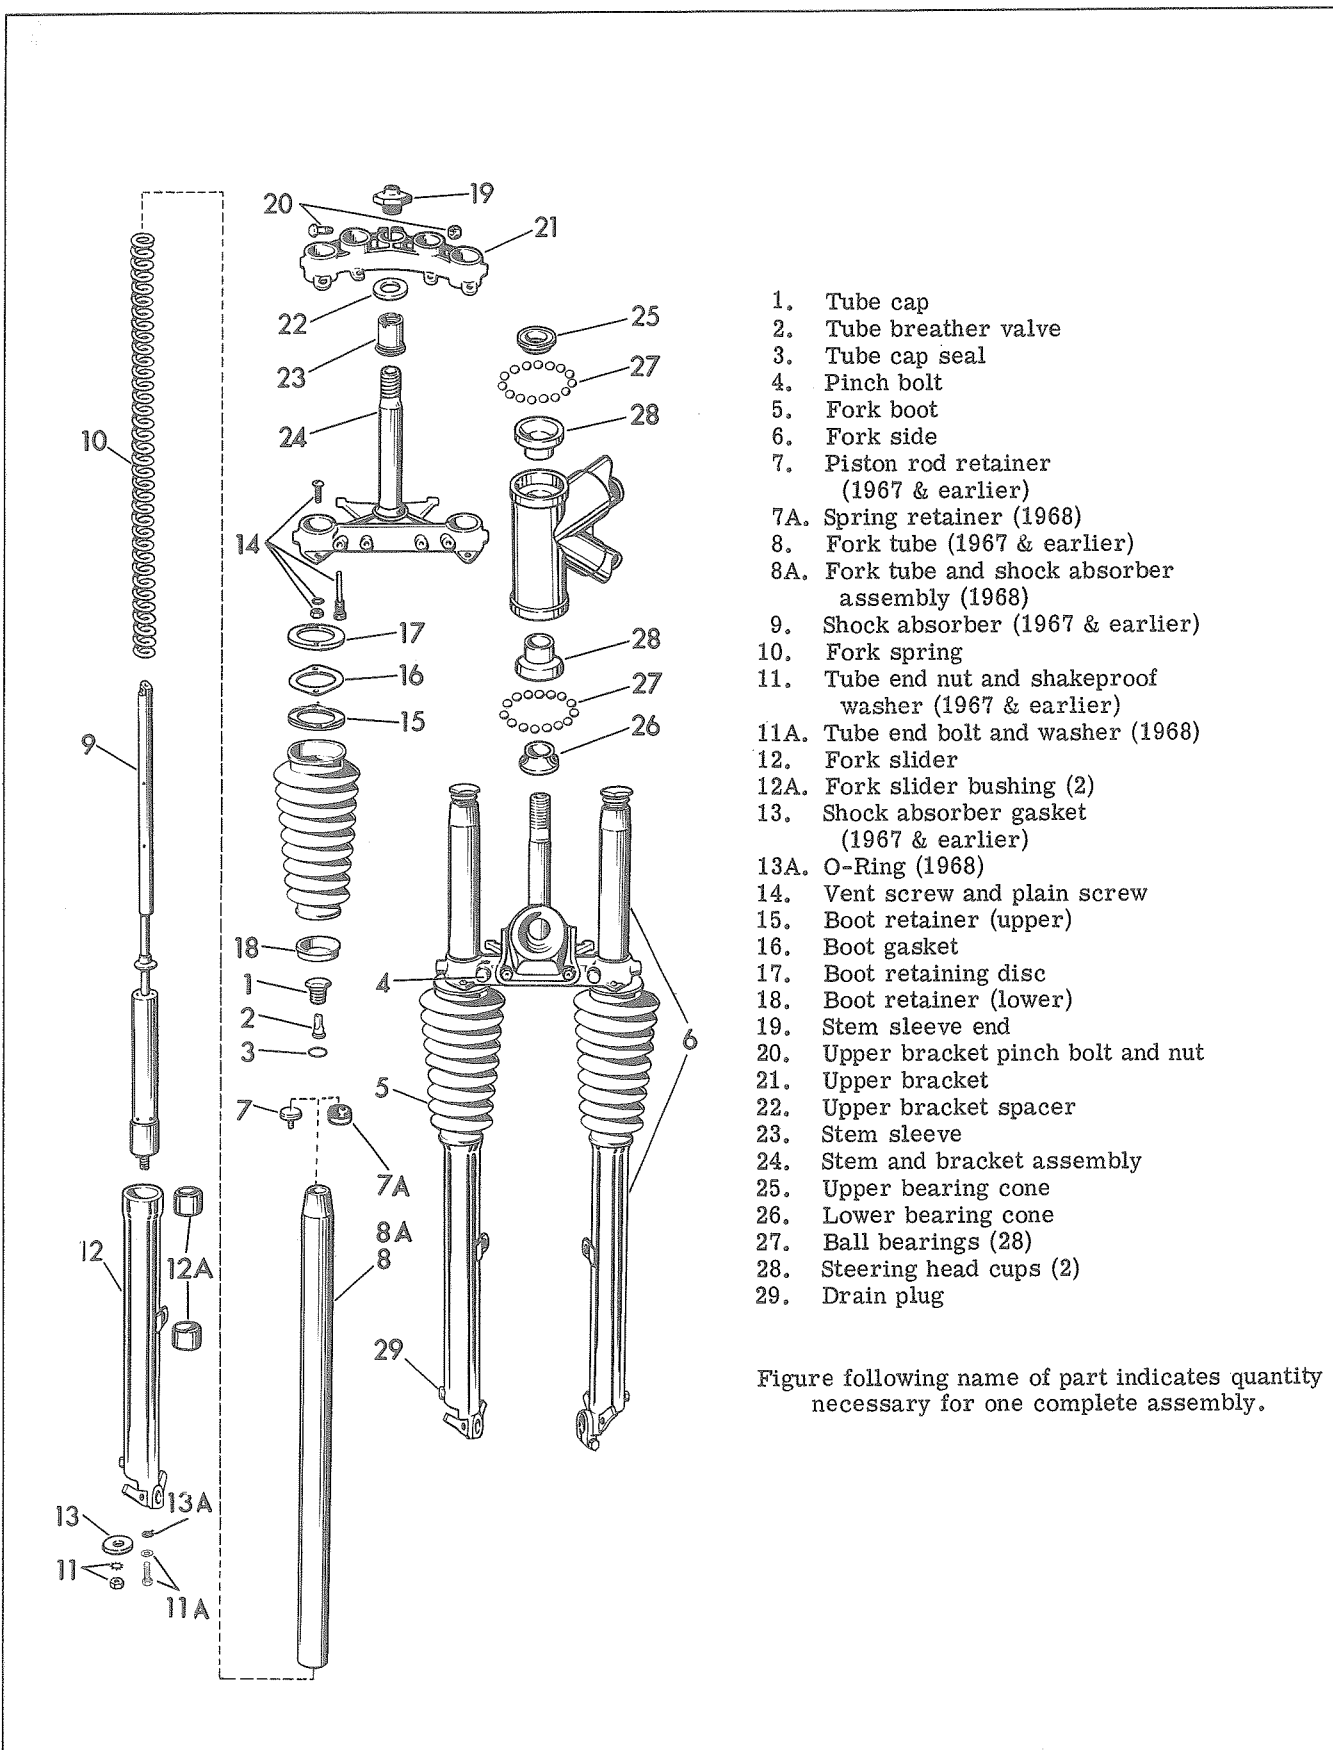

Figure 2F-21. Front Fork and Steering Head - Exploded View
ing malfunctions previously covered, disassemble fork as described in "Disassembling Front Fork Shock Absorber." Inspect shock absorber giving particular attention to the following parts (see Fig. 2F-24): 1967 and earlier models: Check fork piston rod nut (3) for looseness on rod (12). Make sure recoil valve washer is not cocked in chamfer of piston spacer (6). Examine piston valve surface (9) for excessive wear and looseness in tube (2). Check piston rod guide (11) for excessive wear and looseness on rod (12). 1968 models: Check fit of damper piston (6) in fork tube (8A) and fit on shock absorber tube (7). Check seating of washer (3) on upper and lower valve body faces. Replace worn or damaged parts.